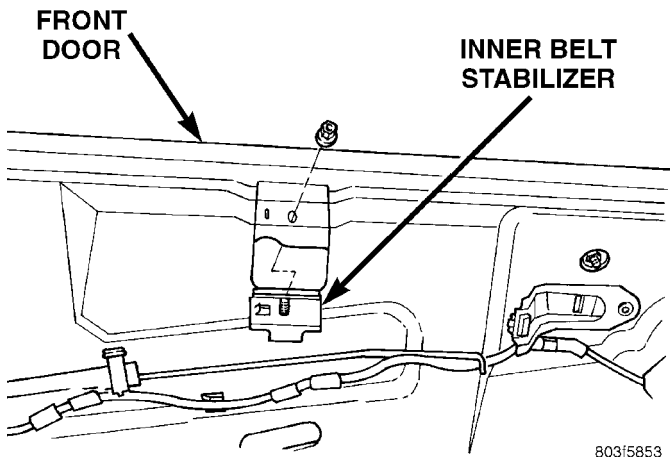

Fig. 13
(3) Separate inner belt stabilizer from door. (Fig. 13)